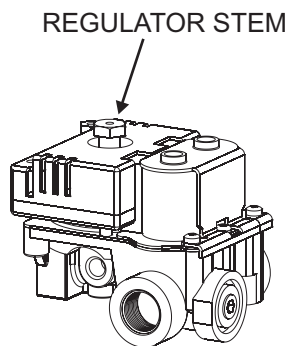

Figure 35
3. Unscrew regulator stem from gas valve and reverse regulator stem to the natural gas position and screw stem back into gas valve. See Figure 35
4. Open four (4) door latches in order to pivot open the front door.
**Installation:** The Remote Control can be installed by the owner of the heater if required. The Remote Control is a battery operated device, which requires a small amount of low voltage wiring. A wiring loom package is supplied by Empire Comfort Systems, Inc. which simply attaches onto the junction box. See Figure 35.